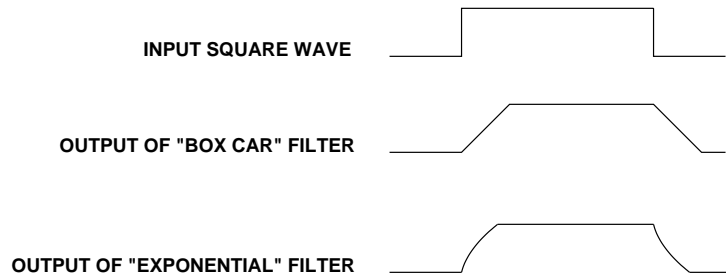

Figure 9: Outputs of “Box Car” and “Exponential” Filters
- (1) Start early!!! This lab is larger in size and complexity than Lab 2. This lab will require a **FULL THREE WEEKS** of effort to be completed. Do not let it slide into the second week before you begin.
- (2) Try to keep your wiring as compact as possible. Long wires introduce delays and are more susceptible to analog noise. This is especially important when dealing with your clock. Problematic clock signals account for many of the debugging issues encountered in this lab.
- (3) If you use more digital components than an FPGA, be careful with the loading of your clock. You may run into trouble if you try to drive every clock signal on your kit from a single output of a crystal oscillator. Sending the clock through several parallel inverters will help you avoid putting too much load on your clock signals.
- (4) The filters that are provided to you are in sign and magnitude format. That is, the MSB is the sign bit; a high designates a negative number. The remaining bits represent the magnitude of the impulse response sample. The maximum area under each impulse response is 127 and the largest that the sum of the impulse response coefficients reaches is 143. One has to look at the values of the impulse response samples to determine this, but it allows one to need only a sixteen-bit accumulator.
- (5) The first four filters (0 through 3) are provided to help you in debugging your circuit. The first filter is simply a single impulse; therefore, the output signal from this filter should be the same as the input signal. The second filter is a negative impulse so its output should be the negative of the input signal. The third filter is a “box car” filter. The fourth filter is an “exponential” filter. By inputting a square wave into these filters you should get outputs shown in Figure 9. The complete list of the filters is given in Table 1. The filter coefficients are provided in sign-magnitude HEX format.